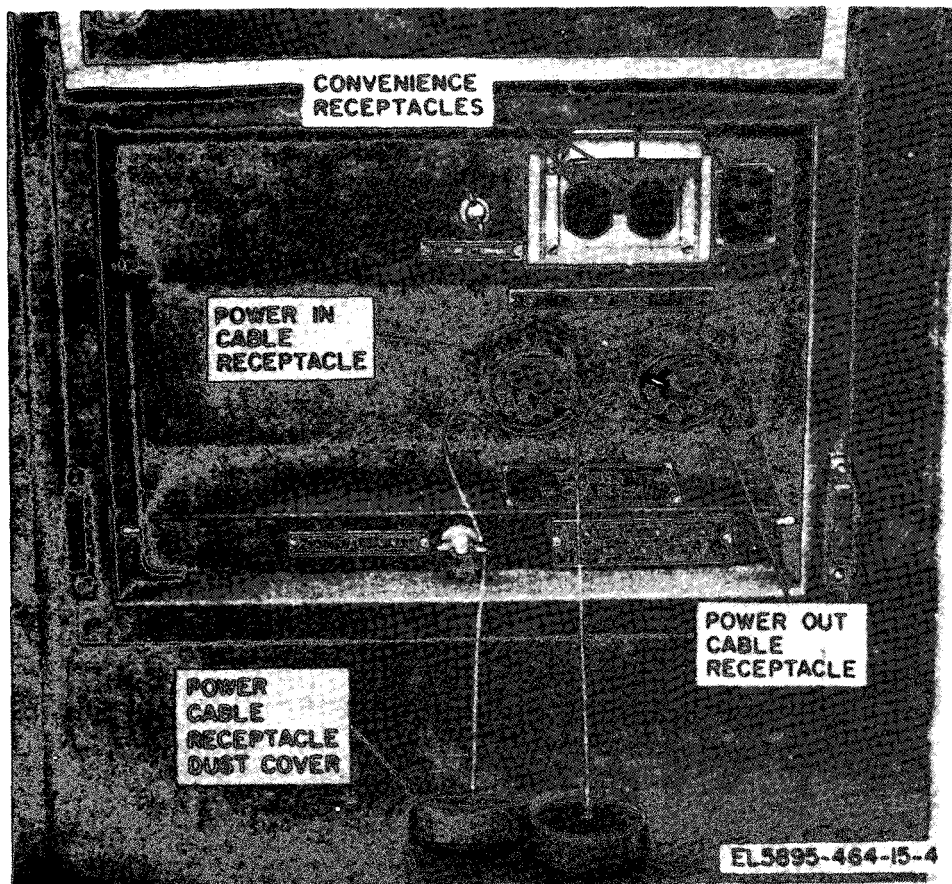

Figure 1-4. Power Entrance Box, Exterior Front View
a. Power and Signal Components. Watertight receptacles are provided in the power entrance box (fig. 1-4), on the AN/MS-32A and AN/MS-32B rear wall (fig. 1-1), for connection to an external power source. External ac power may be provided by a generator set or a central power source. Generator Set PU 618 M or PU 619 M is recommended as an alternate source of primary power. These generator sets are not supplied with the AN/MS-32A or the AN/MS-32B. If a generator set is selected as a power source, refer to the applicable generator set technical manual and TB 13-0125 for power connections on the generator set.
(a) The power entrance box (fig. 1-4) contains receptacles for connecting ac power to the shelter components. It also contains a duplex convenience outlet receptacle (115 volts ac) equipped with a spring-loaded watertight cover. Entrance to the rear of the power entrance box is provided on the interior rear wall when the power entrance panel is removed.